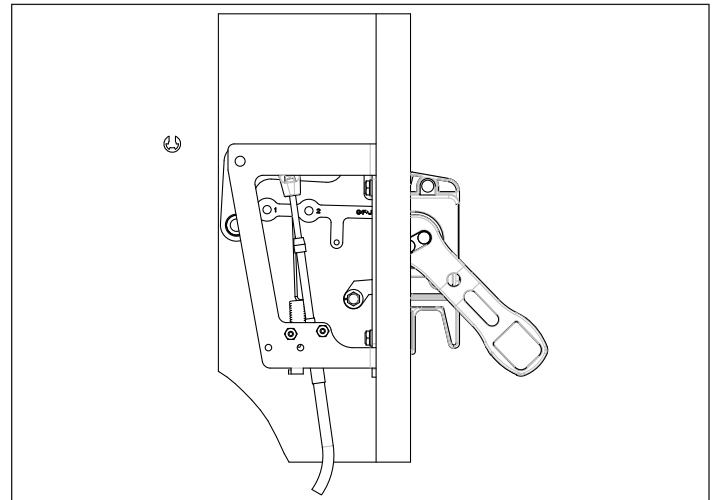

Figure 5. Assembly of Adaptor Link to Bell Crank.
4. Rotate the bell crank towards the handle and rotate the outer handle to the "ON" position. Align the actuator link (hole that is marked "1") and attach it to the bell crank.. Secure it using an E-Ring (see Figure 5).